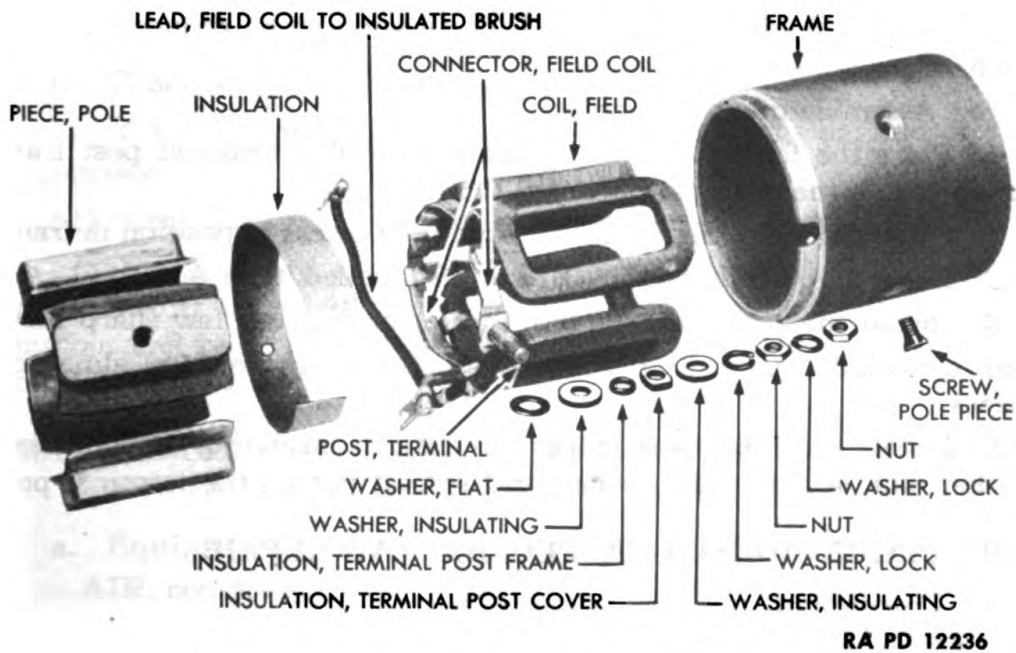

Figure 173—Frame Assembly—Exploded View
3. Lift pole pieces and coils from frame (fig. 173).
4. Lift terminal post frame insulation, insulating washer, and flat washer from terminal post (fig. 173).
1. Place the flat washer, insulating washer, and terminal post frame insulation on the terminal post (fig. 173).